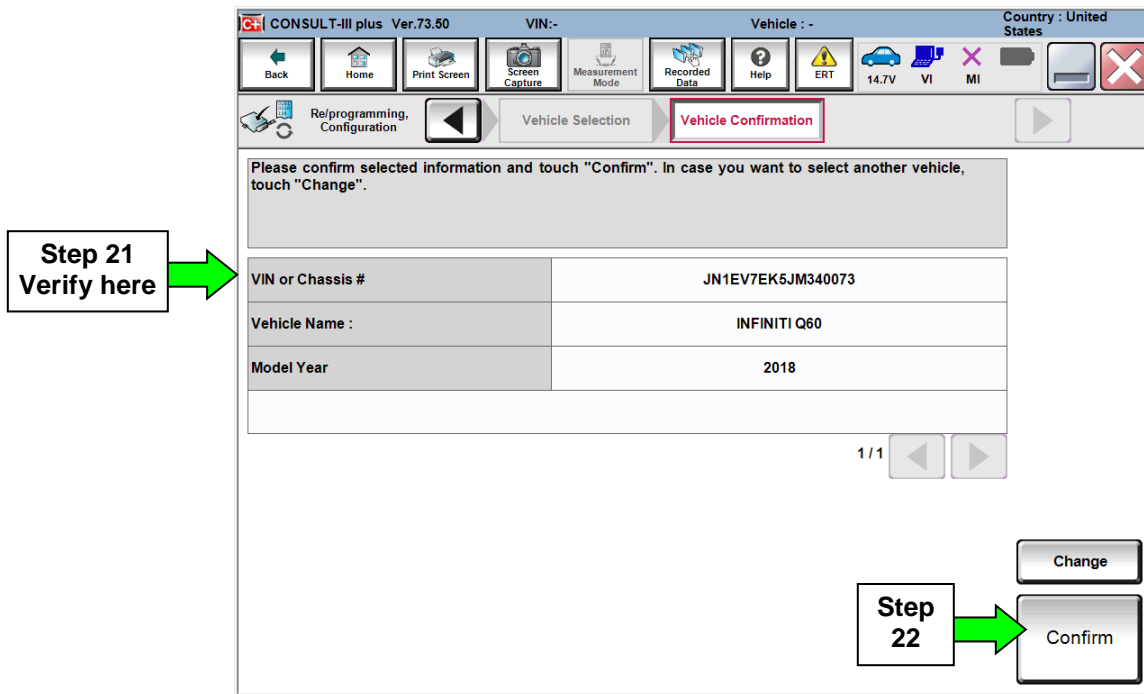

Figure 11
20. Use **Automatic Selection (VIN)** tab to select the vehicle (the screen in Figure 11 will display when complete).